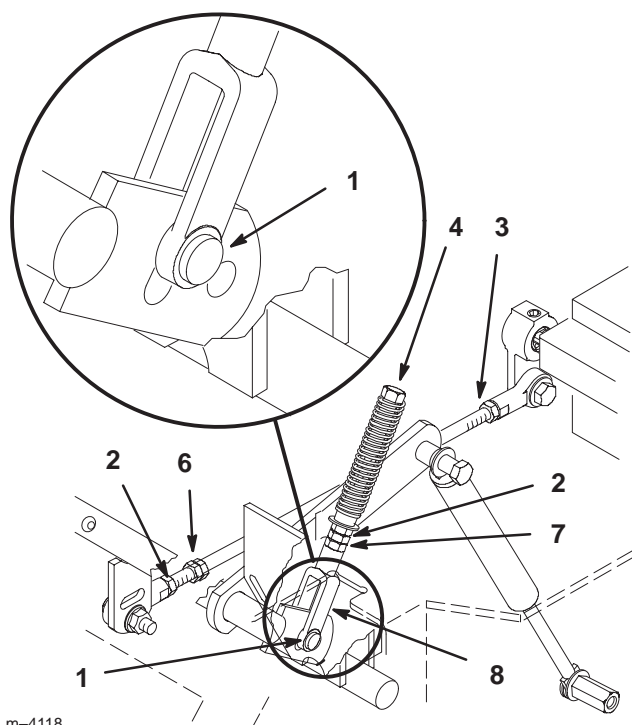

Figure 48
2. Begin with either the left or right motion control lever. Move lever to the neutral (but not locked) position and pull lever back until the clevis pin (on arm below pivot shaft) contacts the end of the slot (just beginning to put pressure on spring) (Fig. 48).
4. If adjustment is needed, loosen the nut against the yoke (Fig. 48).
5. Apply slight rearward pressure on the motion control lever, turn the head of the adjustment bolt in the appropriate direction until lever is centered in neutral lock position (keeping rearward pressure on the lever will keep the pin at the end of the slot and allow the adjustment bolt to move the lever to the appropriate position) (Fig. 48).
4. Loosen locknut at ball joint on pump control rod (Fig. 48).
6. Adjust pump rod length by rotating double nuts on rod, in the appropriate direction, until wheel is still or slightly creeps in reverse (Fig. 48).